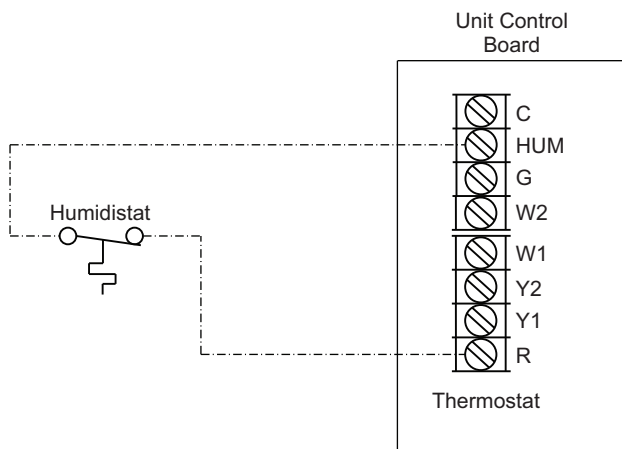

Fig. 57 — Humidistat Connections to UCB
3. Connect one of the leads from the 2-conductor cable to the HUM terminal on the UCB (Unit Control Board). Connect the other lead to the R terminal on the UCB. See Fig. 57.